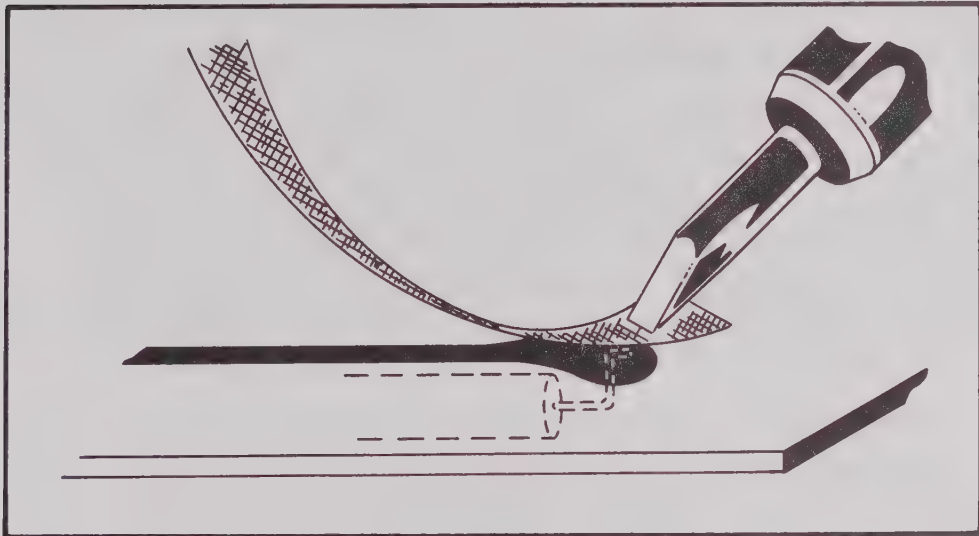

Figure VI-1. SOLDER REMOVAL BY WICKING
- (b) As shown in Figure VI-1, place a hot soldering iron on top of the stranded wire directly above the joint to be unsoldered. Within a few seconds, most of the solder in the joint will flow quickly up the wick, leaving the joint area free of solder.